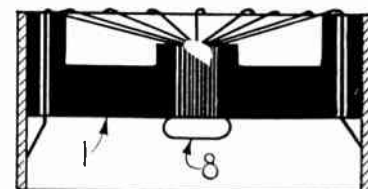

Fig. 18. A radial construction quite different from any of the others shown.
tem and others of the same kind. Fig. 18 from patent 283,703 describes the variation on the systems described in the previous patent. Here the wires are attached to the insulating block (1), and in the middle are soldered to a junction bar (8). This construction should be easy to carry out. In patent 259,961 the thermic wire which has the form of a ring, is carried by two little wires or bus-bars which connect alternately with one or the other,